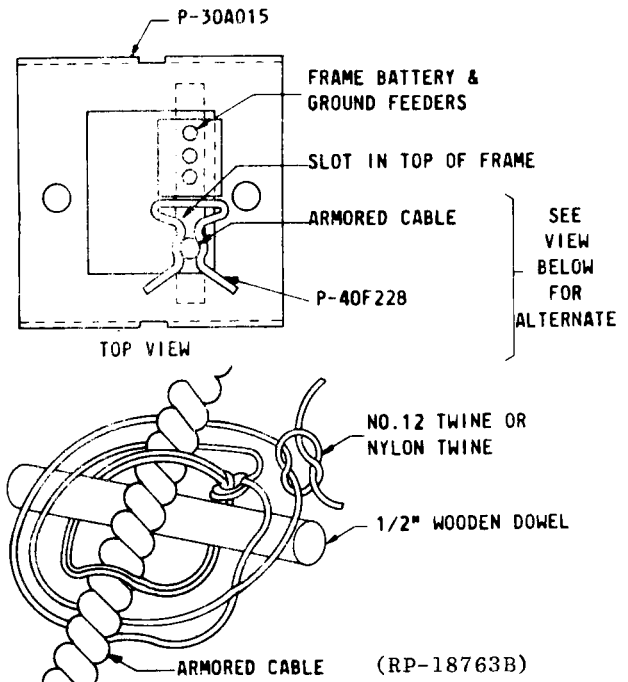

FIG. 5 METHOD OF SUPPORTING AC POWER SERVICE CABLES IN NUMBER 5 CROSSBAR FRAMES (PAR. 5.51)
5.51 Where armored cable enters the top of the frame uprights, permanently support each cable with a P-40F228 Support Clip when provided, otherwise, support each cable with a 2" length of wooden dowel. See Figure 5.
to pull the cable against apparatus mounted in the base of the frame. The P-40F228 clip does not need to be oriented as shown in Figure 5.